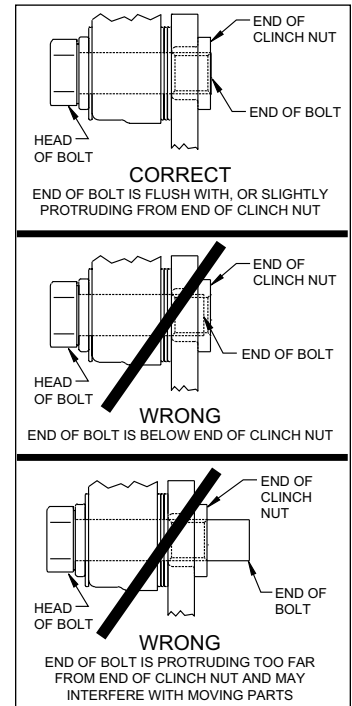

Figure 3. Clinch Nut Engagement Diagram
CAUTION: All mounting bolts must fully engage clinch nuts. Be sure to check that all bolts are either flush or protruding through flanged side of clinch nut after shimming, Figure 3.
- Pack the small outer bearing cone (16) with high temperature disc brake bearing grease and install into hub (9). Slide the hub/rotor assembly onto the spindle. Secure using spindle washer (17) and OEM spindle nut, Photo 6. Adjust bearings per OEM specifications. Install saved OEM nut lock (if any) and a new cotter pin (not supplied).
- Screw dust cap (18) into hub (9), Photo 7. Friction created by the o-ring (19) on the dust cap keeps it from unscrewing. **NOTE:** *The O.D. of the existing OEM spindle washer may be larger than the I.D. of the dust cap not allowing it to seat against the hub face. Therefore, use the spindle washer (17) supplied with the kit instead of the OEM washer.*
- NOTE:** *Please reference the caution statement at the beginning of the assembly instructions.* Mount the caliper (20) onto the caliper mounting bracket (1) using bolts (21) and washers (22), as shown in Figure 1. Initially place two .035" thick shims (23) on each bolt between the caliper and the bracket, Photo 8. Temporarily tighten the mounting bolts and view the rotor (13) through the top opening of the caliper. The rotor should be centered in the caliper, Photo 9. If not, adjust by adding or subtracting shims between the bracket and the caliper. Always use the same amount of shims on each of the two mounting bolts. **NOTE:** *The end of each bolt must be flush with or slightly protruding from the head of the clinch nut, as shown in Figure 3.* If necessary place spare shims between washer (22) and caliper mounting ear to achieve the proper clinch nut engagement. Once the caliper alignment and clinch nut engagement are correct, remove the bolts one at a time, apply red *Loctite*® 271 to bolt threads, and torque to 40 ft-lb.
- Install the disc brake pads (24) into the caliper, with the friction material facing the rotor (13), and secure in place using cotter pin (25), Photo 10.